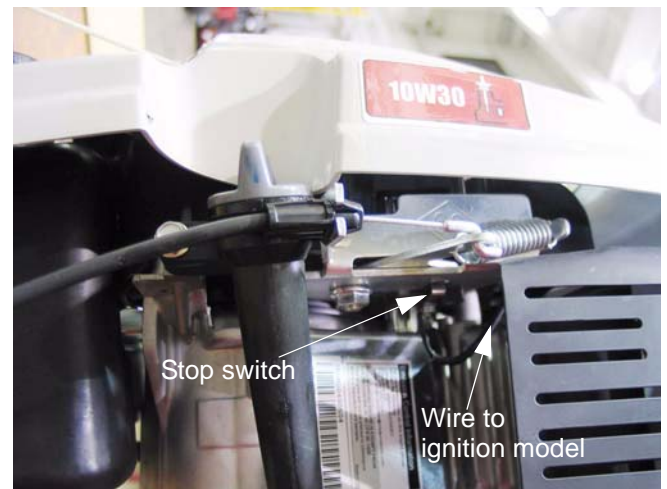

Figure 7.2
- 3a. Locate the terminal that connects the stop switch wire to the primary windings of the ignition module. See Figure 7.2.